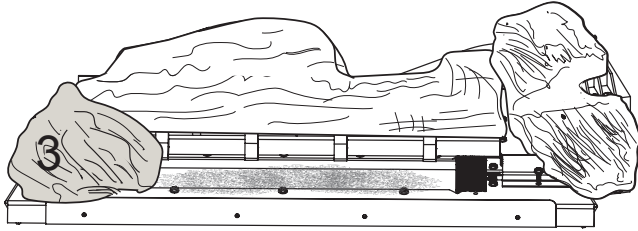

Figure 6.13 - Log #3 Placement
4. Hold log #3 in your left hand with the flat surface down. Place log #3 by matching the two notches on the bottom of the log with the grate bar on the left and the pointed end of log #1. See Figure 6.13.